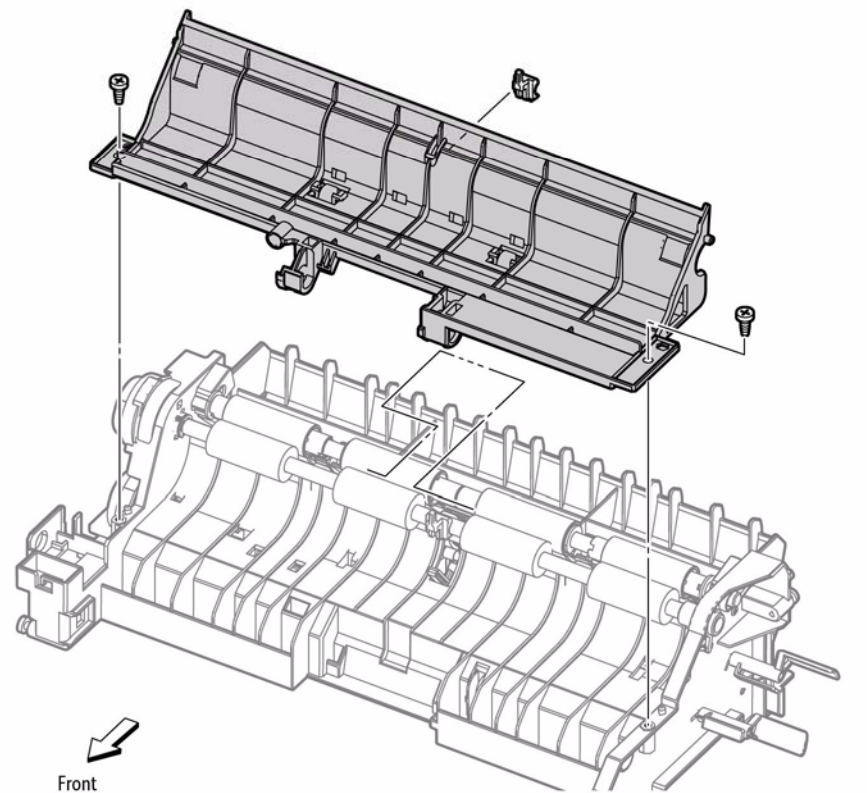

Figure 3 Remove the Registration Chute
4. Refer to Figure 3 to locate and remove 2 screws (silver, tapping, 8mm) that secure the registration chute.